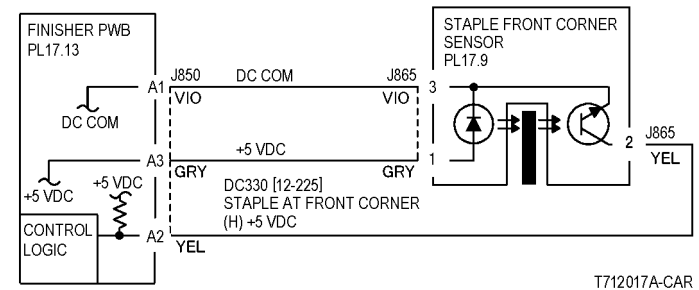
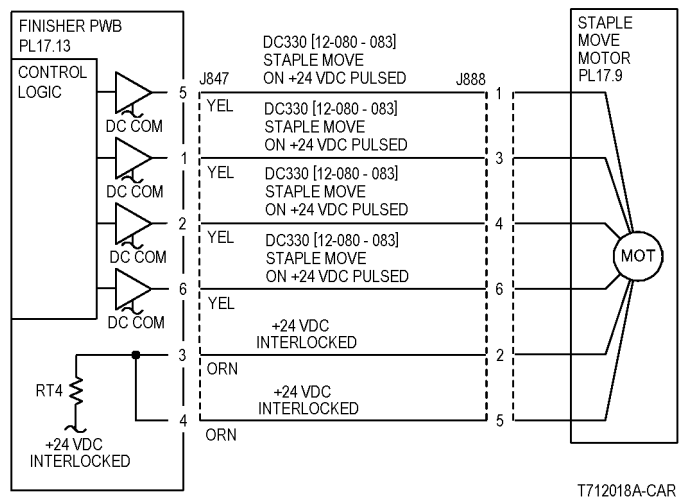

Figure 2 12-257 RAP Circuit Diagram - Stapler Front Corner Sensor
Figure 3 12-257 RAP Circuit Diagram - Staple Move Motor
- Ensure that the connectors shown in the circuit diagrams (Figure 2, Figure 3) are securely connected and that the wires are not damaged.